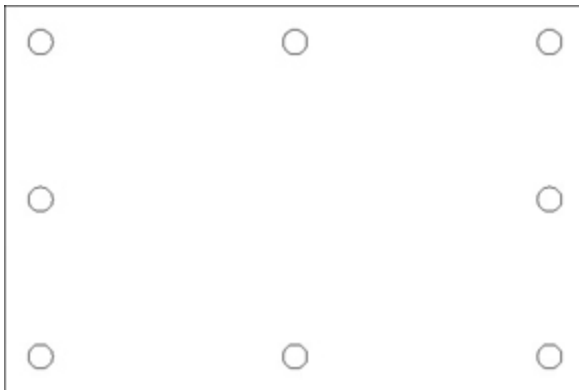

Figure 8-9
- 13** Save your drawing as **CH08_EXERCISE2**. Your drawing should look like Figure 8-9.